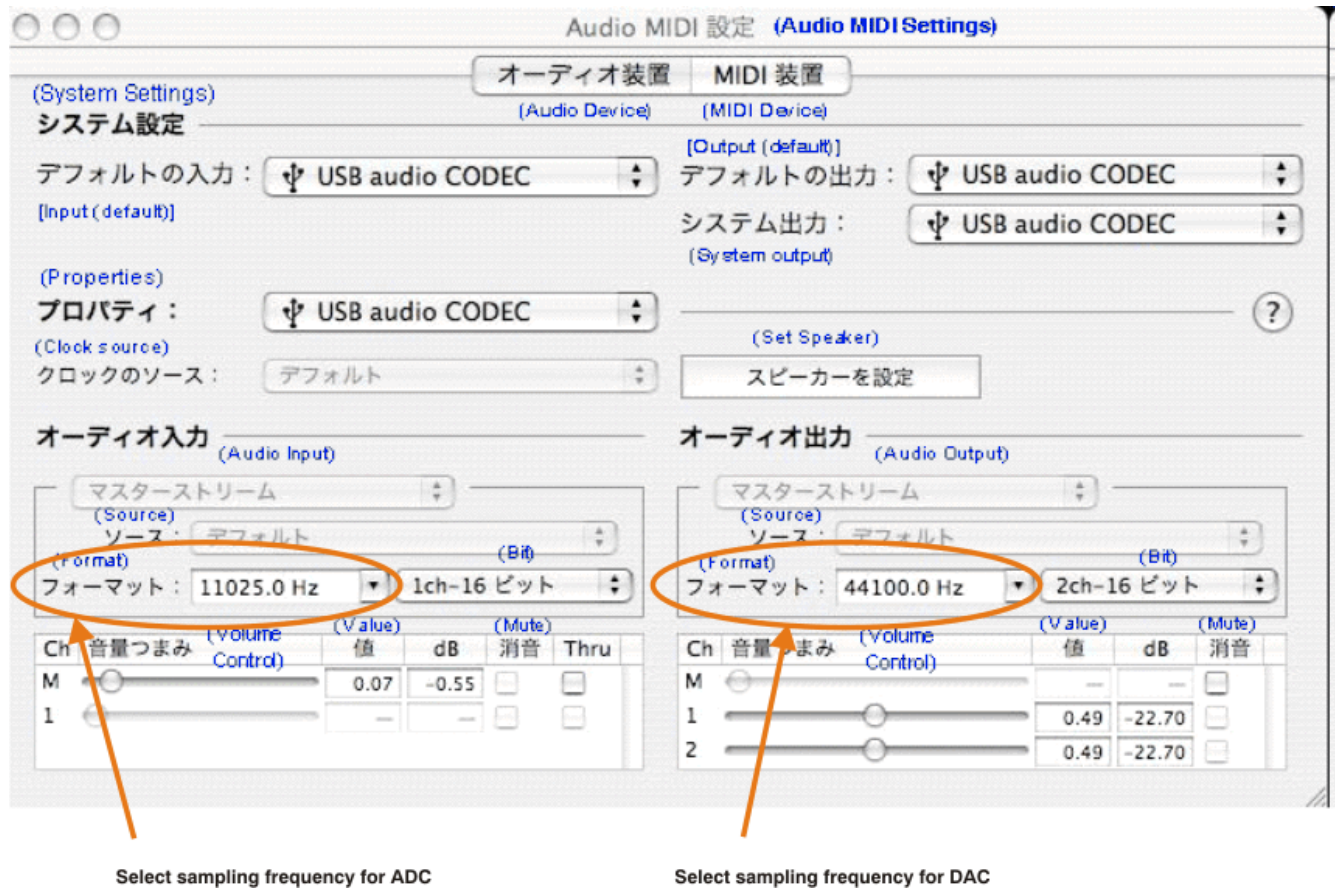

Figure 3-11. Audio Midi Setting Window (Mac OS)
1. Open the *Audio MIDI Settings* options (*Application*→*Utility*→*Set Audio MIDI*), as illustrated in Figure 3-11.
2. Select the *Audio Input* tab in the *Set Audio MIDI* options group, as Figure 3-11 shows.
2. Select the *Audio Output* tab in the *Set Audio MIDI* options group, as shown in Figure 3-11.